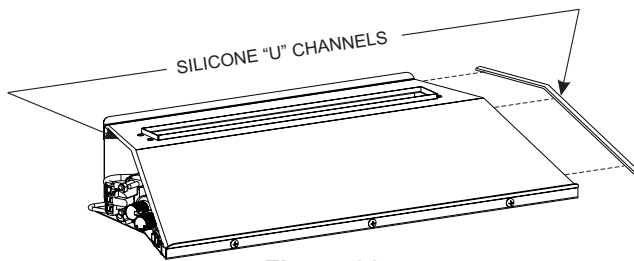

Figure 28
2. Before applying the glass to the burner top, attach the black silicone "U" channel edges (located in the Instruction Envelope) to each side of the Top Cover. See Figure 28. These "U" channels will help keep the decorative glass from falling over the outside edges of the Top Cover.